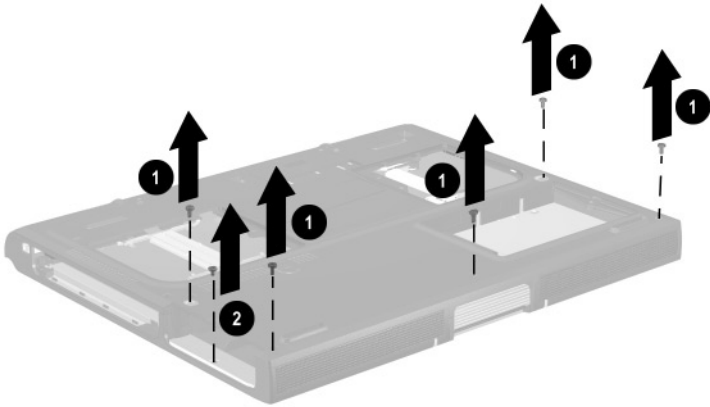

Figure 5-27. Removing the Palm Rest Screws
4. Remove the five TM2.5 × 8.0 screws ❶ that secure the palm rest to the base enclosure (Figure 5-27).
5. Remove the TM2.5 × 5.0 screw ❷ that secures the palm rest to the base enclosure in the battery bay.